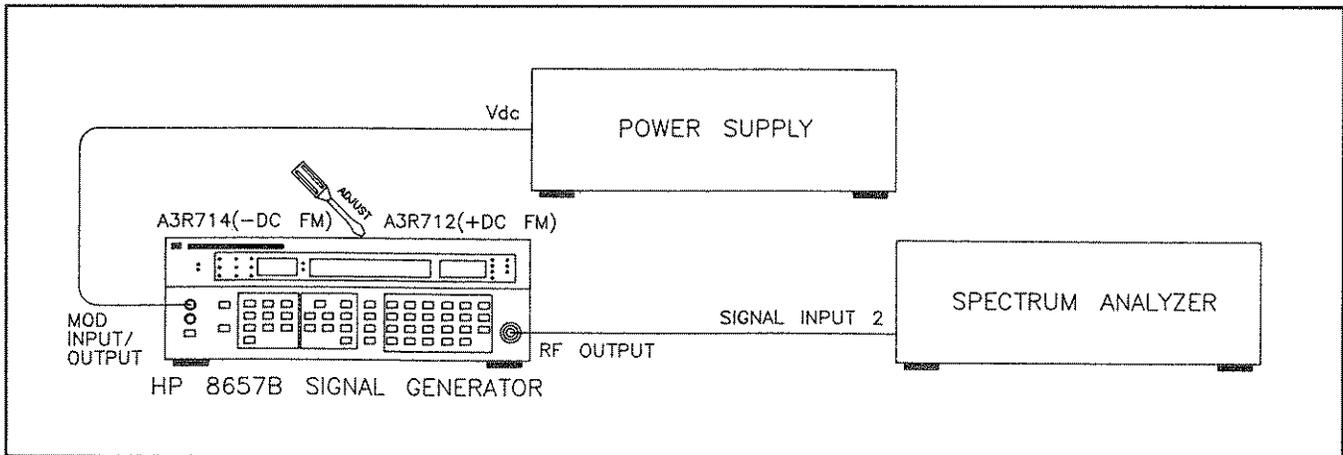

Figure 5-11. DC FM Adjustment Setup
4. Connect the HP 8657B RF OUTPUT to the spectrum analyzer SIGNAL INPUT 2 and the MOD INPUT/OUTPUT to the power supply +1 Vdc as shown in Figure 5-11.